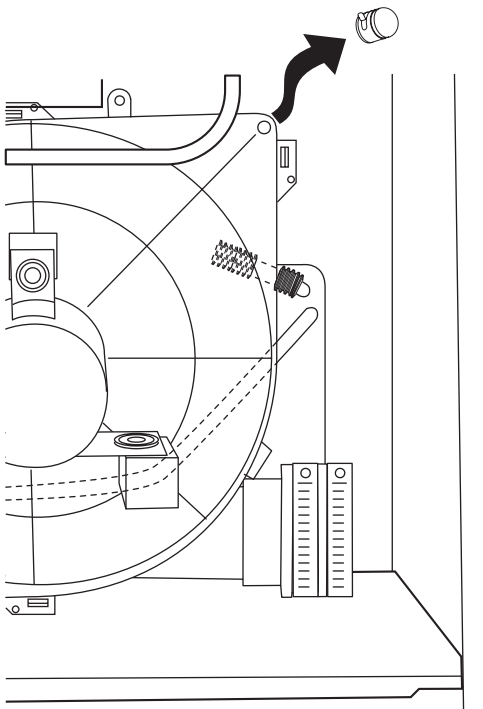

Fig.14—Inducer Housing Drain Tube A99118
3. Disconnect drain cap from unused drain tap on inducer housing. (See Fig. 14.)